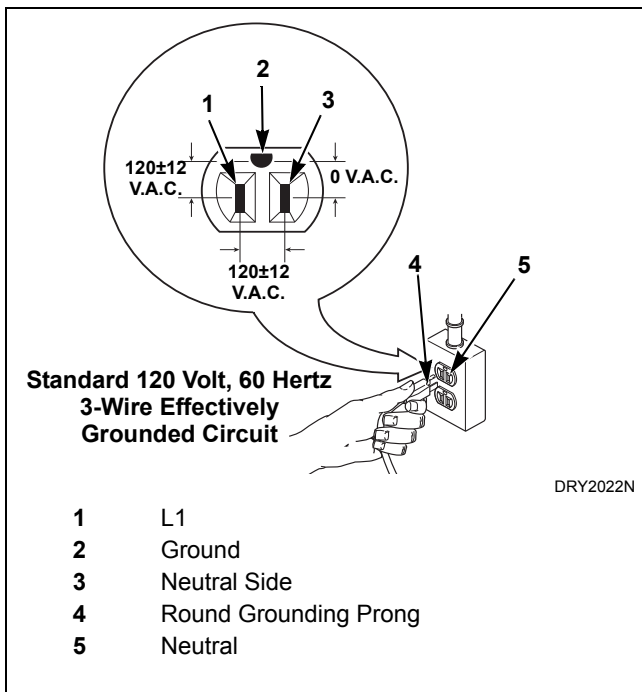

Figure 15
The three-prong grounding plug on the power cord should be plugged directly into a polarized three-slot effectively grounded receptacle rated 110/120 Volts AC (alternating current) 15 Amps. Refer to *Figure 15* to determine correct polarity of the wall receptacle.
**NOTE: Have a qualified electrician check the polarity of the wall receptacle. If a voltage reading is measured other than that in *Figure 15*, the qualified electrician should correct the problem.**